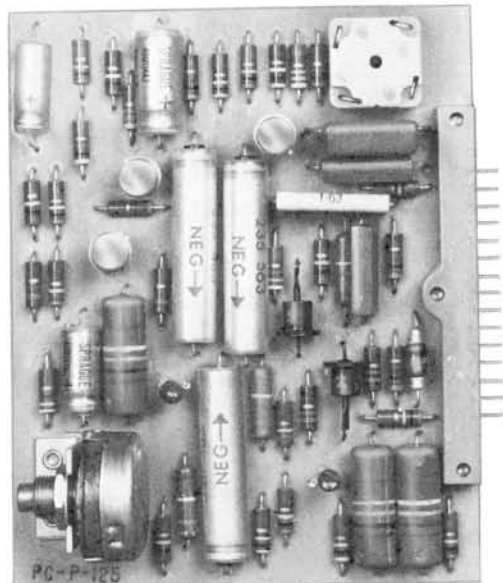

Fig. 9—KS-16765, List 6 Amplifier
**2.14** The KS-16765, List 6 amplifier (Fig. 9) is of printed wiring board construction and provides amplification for both recording and reproducing, an automatic volume control feature for minimizing variation in level of recorded speech, and a high frequency oscillator to provide the bias current required for magnetic recording. List 6 amplifier supersedes List 4 amplifier and may be used as a replacement in all Lists 1 and 2 announcement sets.